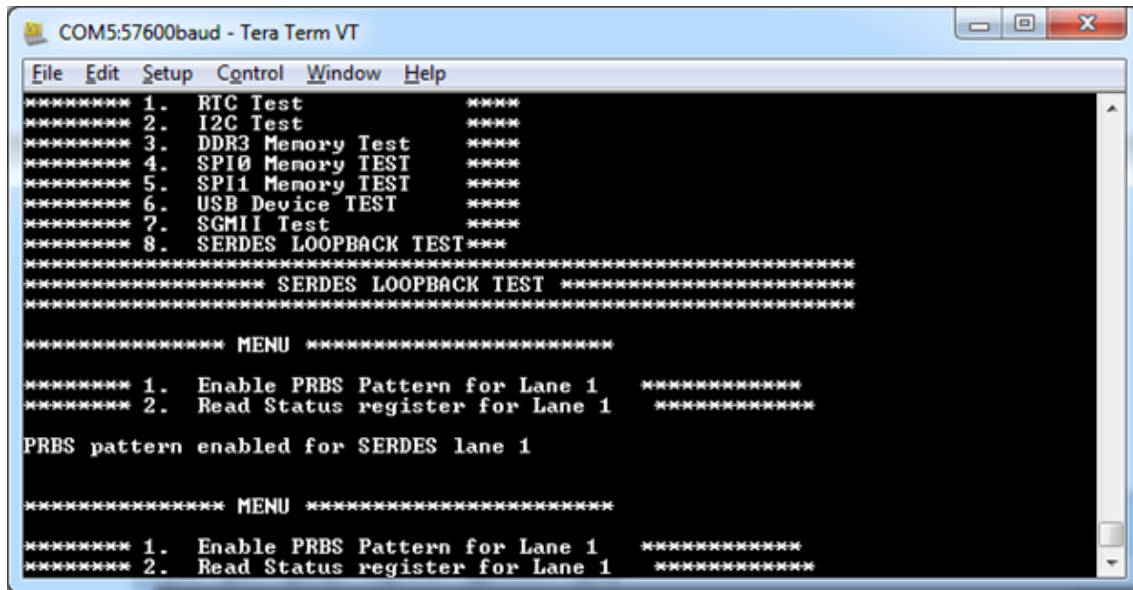

Figure 44 - SERDES Loopback Test
- a. Press 1 to enable PRBS pattern for Lane 1. Refer to Figure 44.